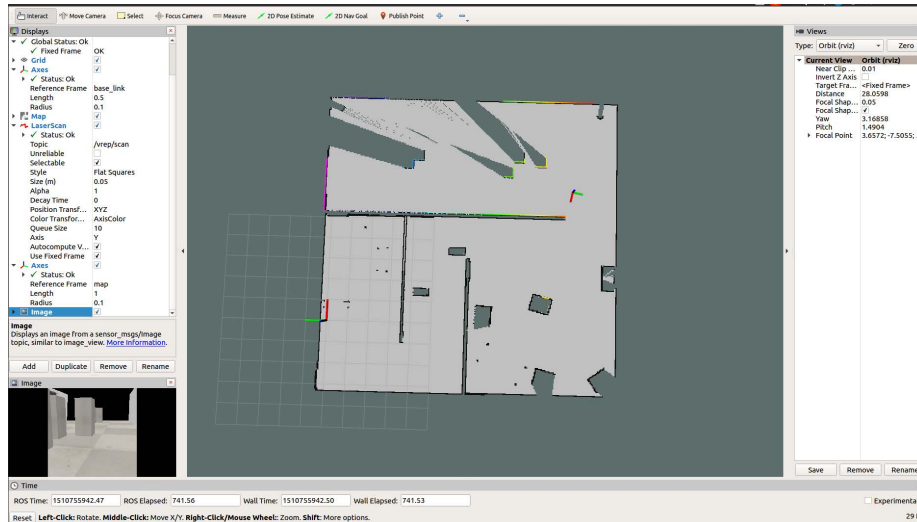

Figure 2: Grid map in Rviz
- 1 Build 2D grid map with laserscan data and show it via rviz such as Fig. 2